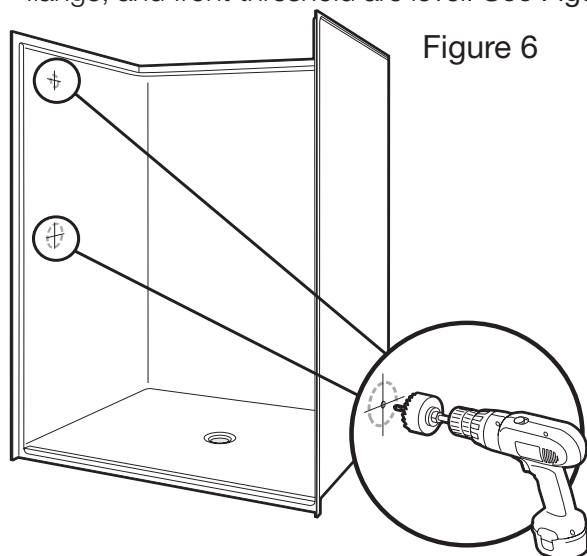

Figure 6
6. Mark fitting locations. (Refer to measurements from step 4). Using a hole saw (fine tooth or abrasive grit cutting edge) make necessary openings for fitting and valves, drilling from the inside (smooth side) out. **See Figure 6.**
4. Mark fitting locations. (Refer to measurements from step 4). Using a hole saw (fine tooth or abrasive grit cutting edge) make necessary openings for fitting and valves, drilling from the inside (smooth side) out. **See Figure 6.**